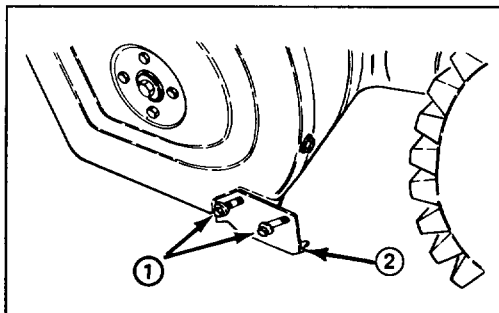

Figure 17
ADJUSTING SKIDS (Fig. 17)
2. Loosen the (4) flange bolts securing both skids to the auger side plates (Fig. 17).